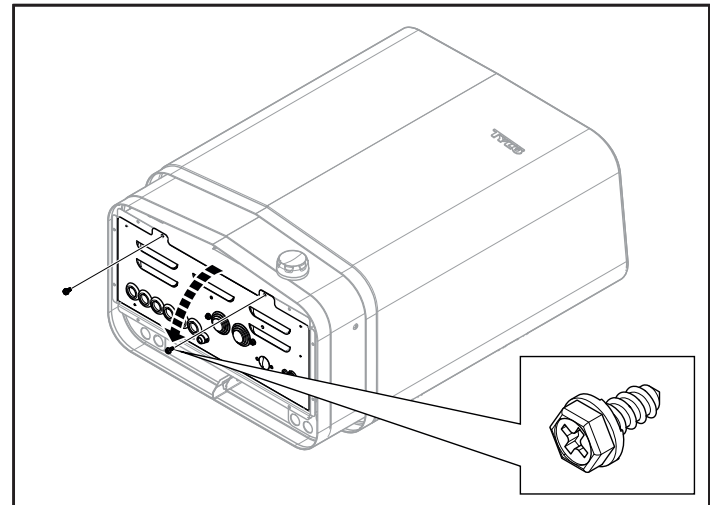

Figure 8: Opening/closing the cover
2. Undo the screws and open the cover (see Figure 8).
7. Close the cover and tighten the screws (see Figure 8).